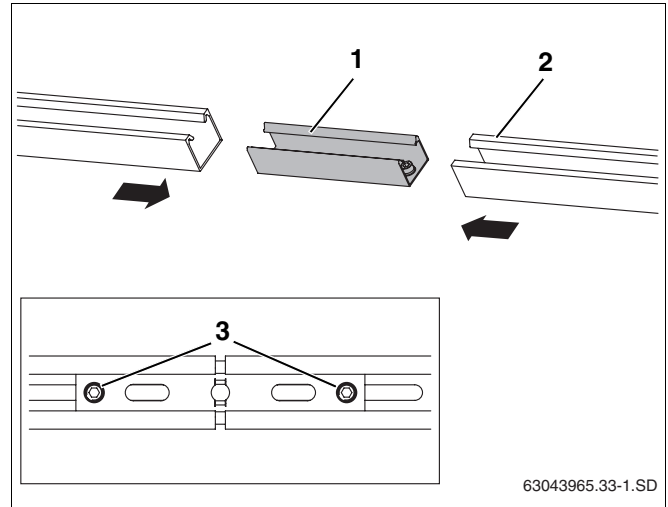

Fig. 31 Connecting profile rails
- ▶ Push plug connector (Fig. 31, **Item 1**) as far as it will go into both profile rails (Fig. 31, **Item 2**).
- ▶ To lock, tighten both fitted M10 threaded studs (Fig. 31, **Item 3**) in the plug connector using a size 5 spanner.